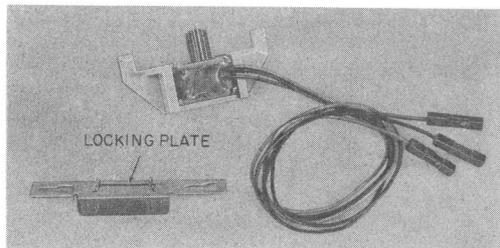

Fig. 7—D-180812 Kit of Parts
- 3.13 Install the D-180812 Kit of Parts (Fig. 7) as follows.